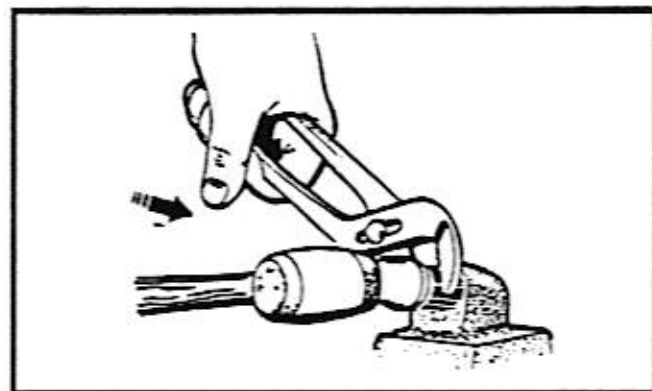

Figure 14-6. Cutter Tooth Installation
4. Grasp each tooth with pliers around the spring retainer as shown in the Figure titled Cutter Tooth Installation, and insert it into the tooth holder. Lubrication of the tooth at this time will make it easier to remove the tooth later. Refer to Figure 14-6.